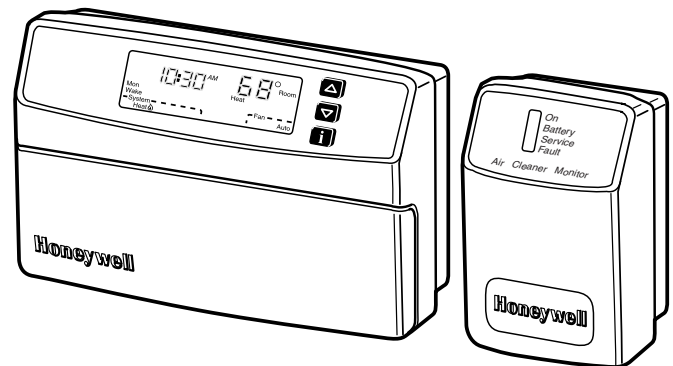

Fig. 13. Complete T8600/W8600F installation.
15. Push the W8600F reset button. All four indicators on the display will flash 5 times. The ON indicator will stay active as long as the EAC is on. See Fig. 13.